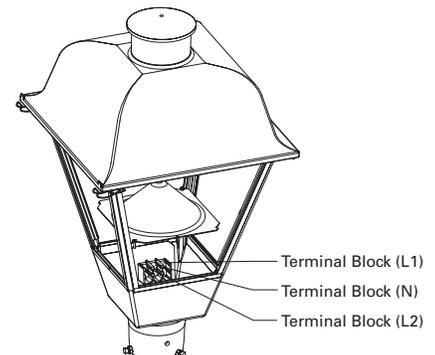

FIG. 3
3. Connect service leads to the appropriate position with the terminal block. (FIG. 3)
6. Connect service leads to the appropriate position with the terminal block. **(FIG. 3)**